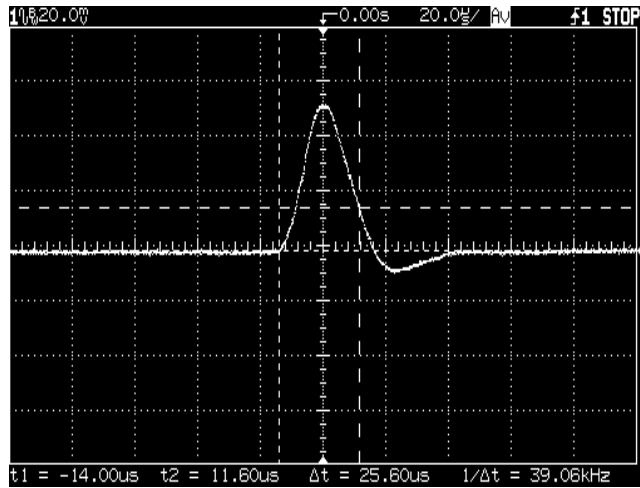

Figure 8-4 Transient response time
- 5** Adjust the oscilloscope to display transients as shown in Figure 8-4. Note that the pulse width ($t_2 - t_1$) of the transients at 15 mV from the base line is no more than 50 μ sec for the output.